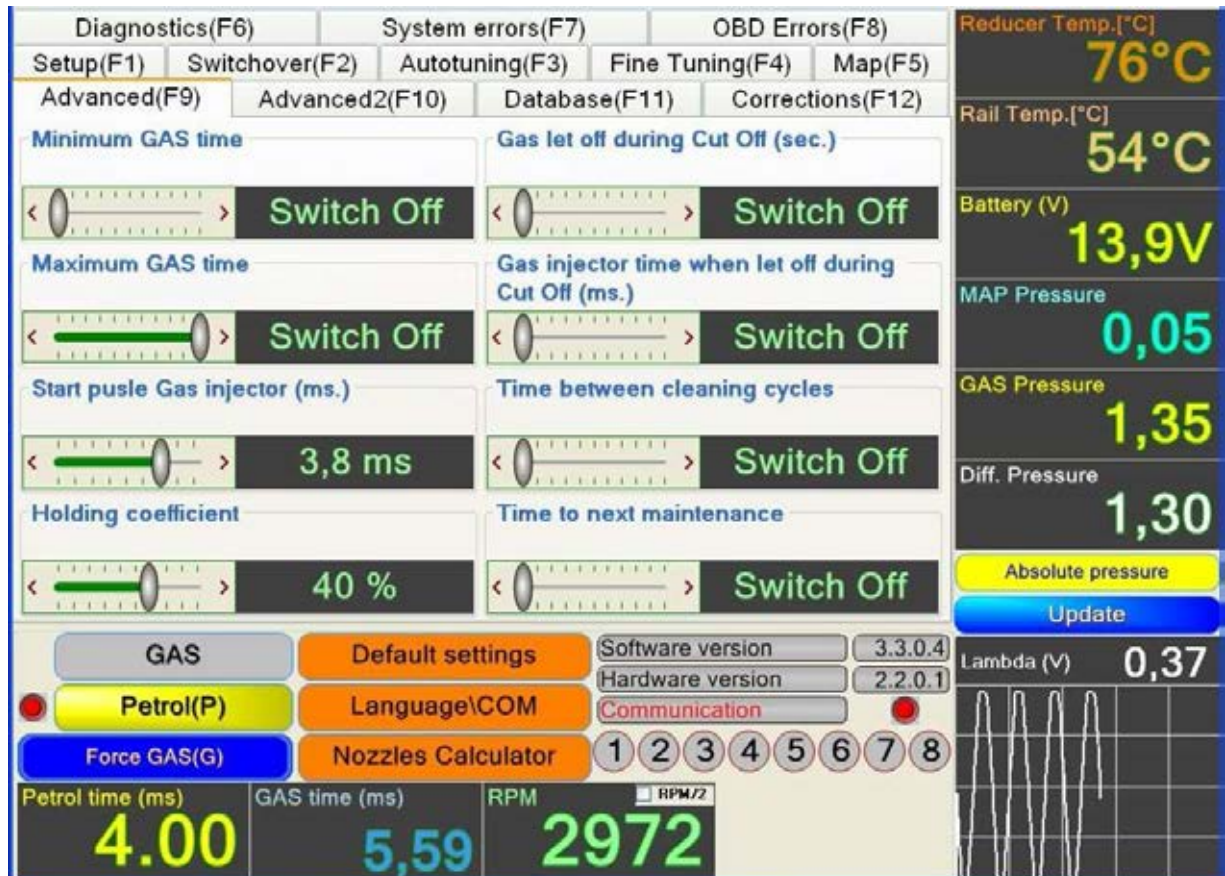
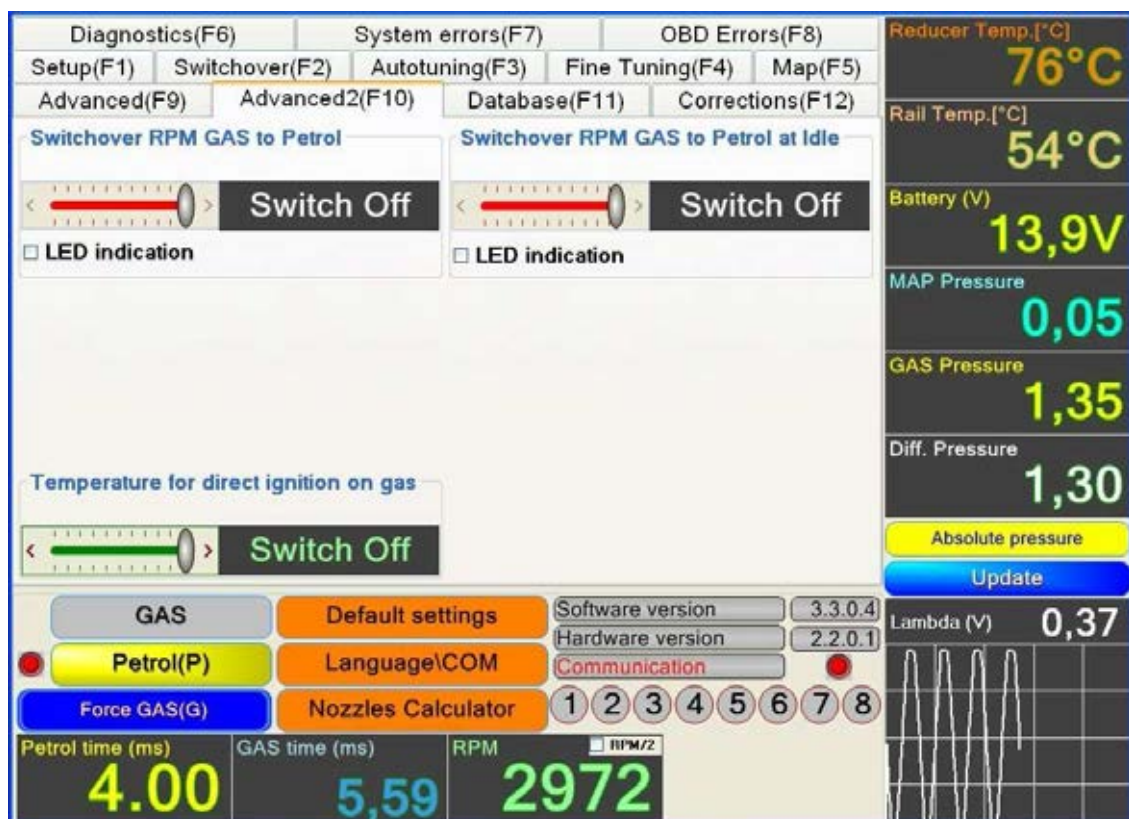
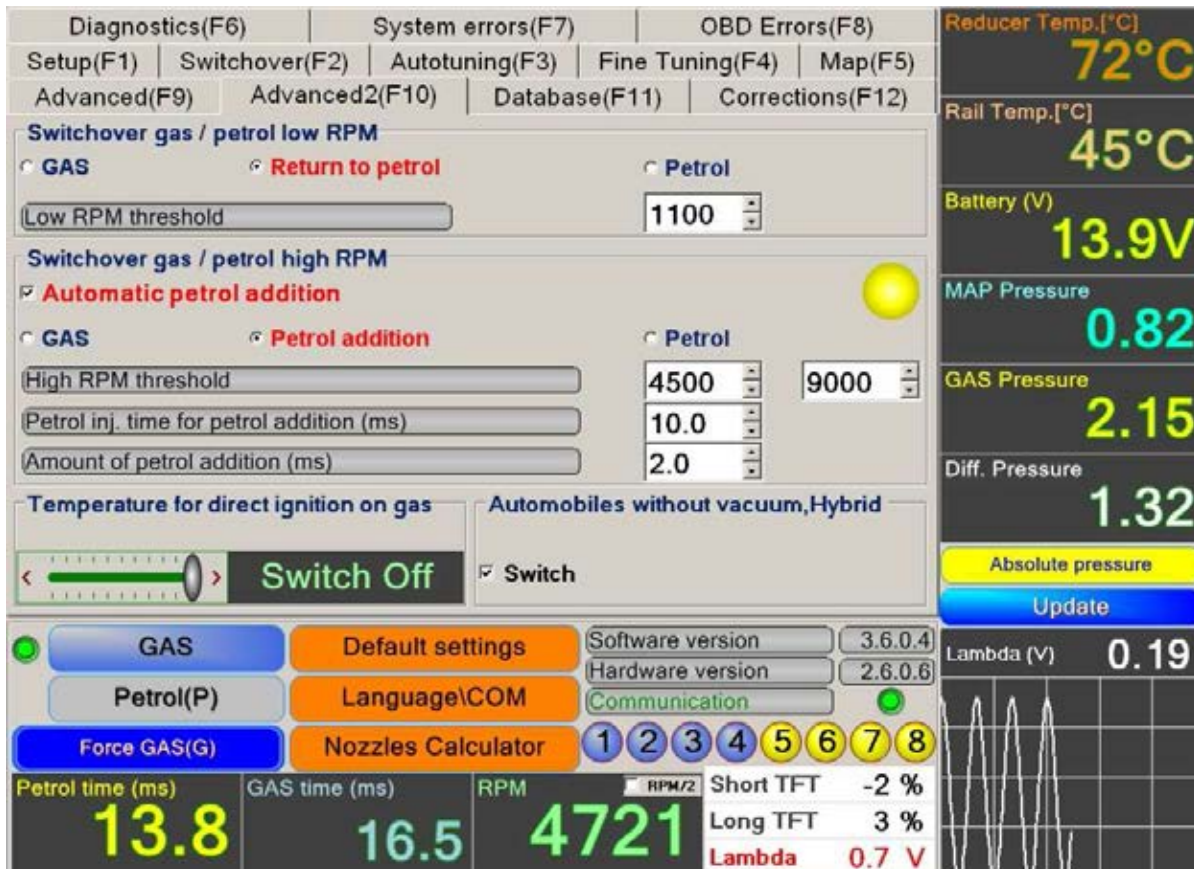

FIG.11
FIG.12
FIG.12.1
16. MENU "ADVANCED SETTINGS" (F9) - FIG.11, FIG.12 and FIG.12.1
Sliders in „Advanced setting 2” (F10) – FIG.12
- „Advanced setting 2” (F10) – FIG.12 .1 –